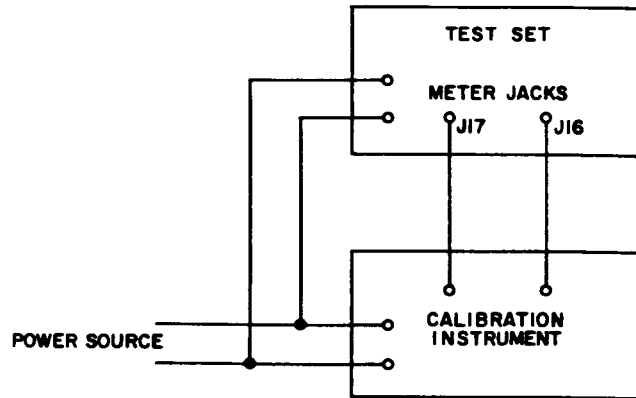

Figure 2. Digital multimeter calibration
6. Digital Multimeter Voltage Range and Accuracy (fig. 2)